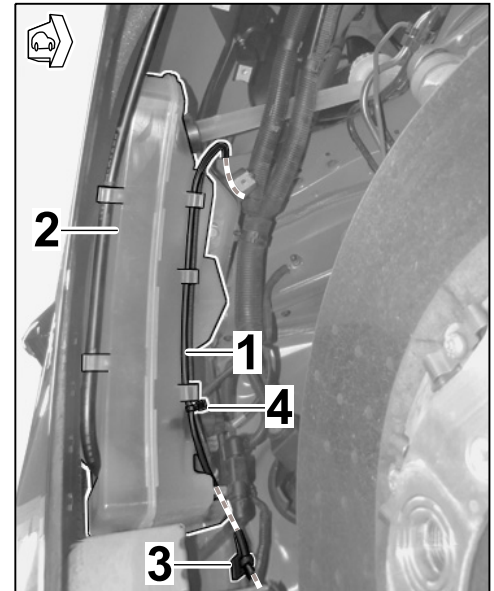

Figure 26
3.3.6 Route line 0.52; BK/YE on the washer-fluid reservoir through the opening in the wheel housing to the plenum panel (⇒ *Figure 26*).